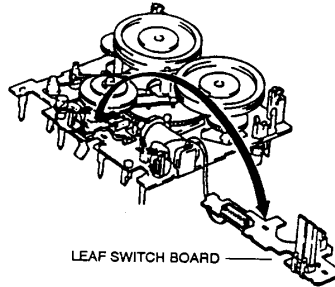

Fig. 2
- Release the two hooks indicated by the arrows, and remove the leaf switch board. Be careful not to cut the lead wire of the plunger (fig. 2).